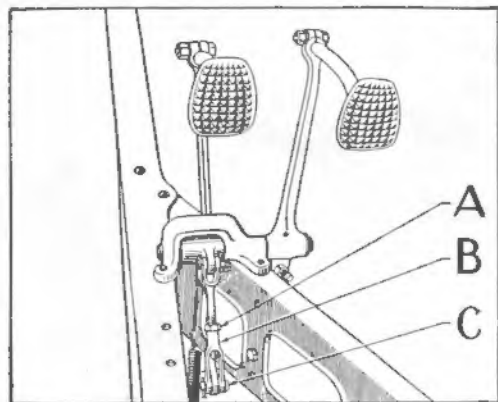

Figure 8
The clutch is self-adjusting; however, it is necessary to adjust the clutch pedal rod to prevent the pedal from "riding" the floor board. To adjust, loosen lock nut (A), Figure 8, remove clevis pin (C) and turn yoke (B) to shorten or lengthen the rod, as necessary, so that the pedal shank can be held in a position one and one-half inches from the floor board when the clutch is engaged. Replace the clevis pin (C) and cotter pin. Tighten lock nut (A). The pedal clearance should be checked frequently, as a lack of clearance will cause clutch slippage.